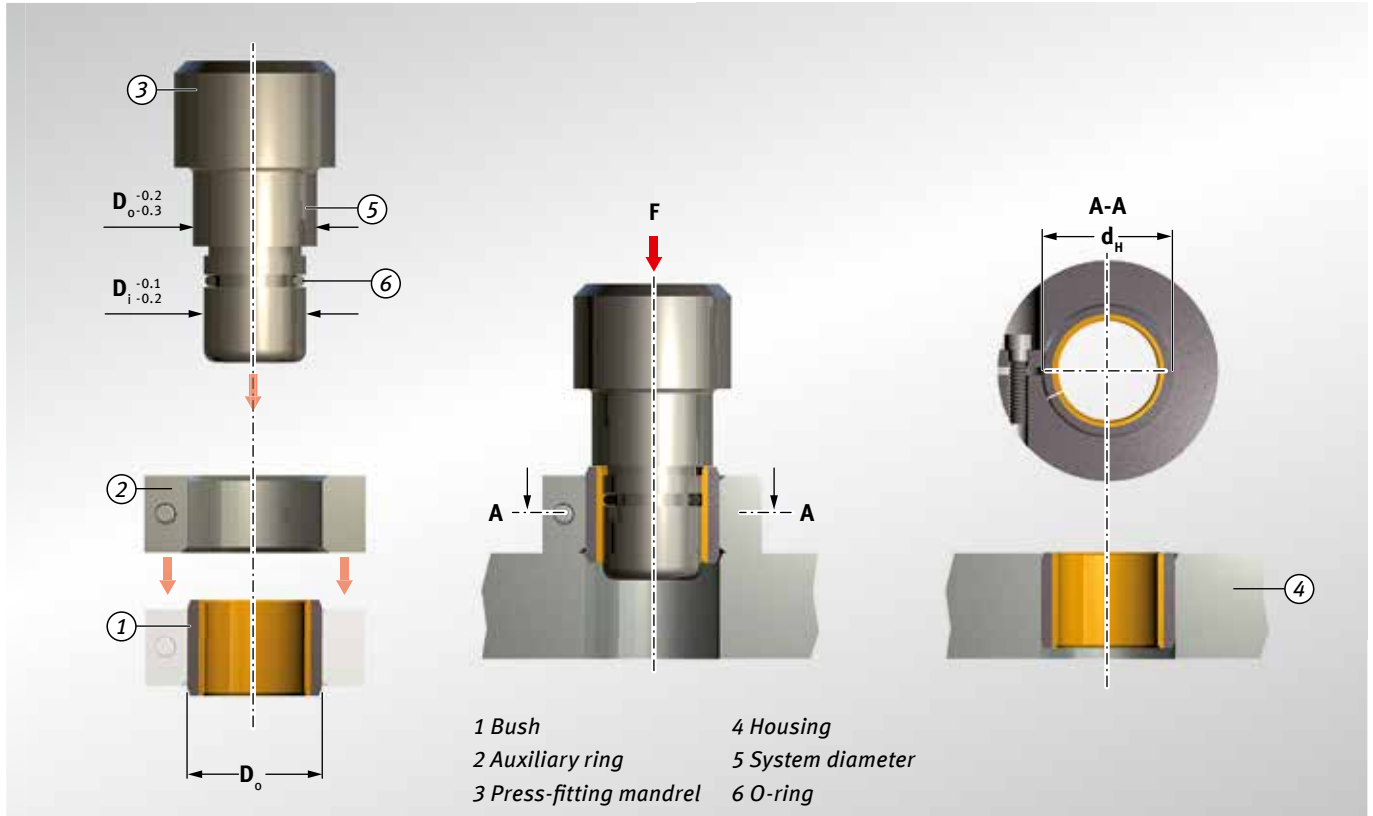

Fig. 52: Press-fitting bushes, $D_o \geq 55$ mm, with auxiliary ring
- Press-fitting with mandrel and auxiliary ring as per Fig. 52.